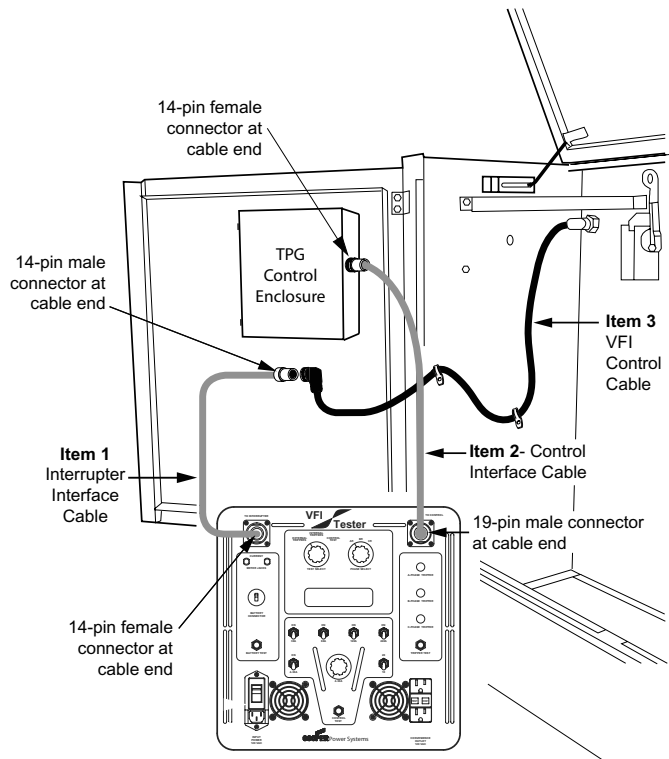

Figure 4.
3. Connect the 14-pin female/14-pin male interrupter interface cable (Item 1) to the VFI Tester at the interrupter port. Refer to Figure 4 for steps 3 through 8.
3. Disconnect the 14-pin female connector end of the tester control interface cable (Item 2) from the TPG control enclosure. Refer to Figure 4 for steps 3 through 8.